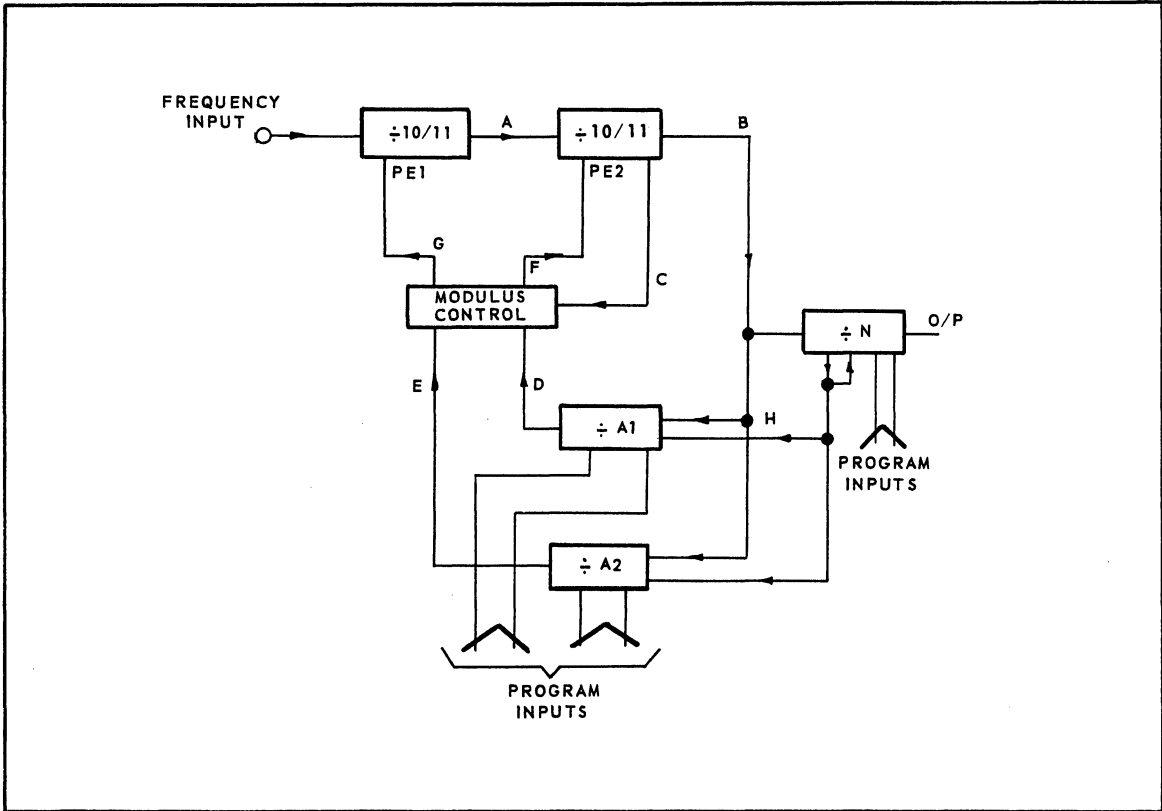
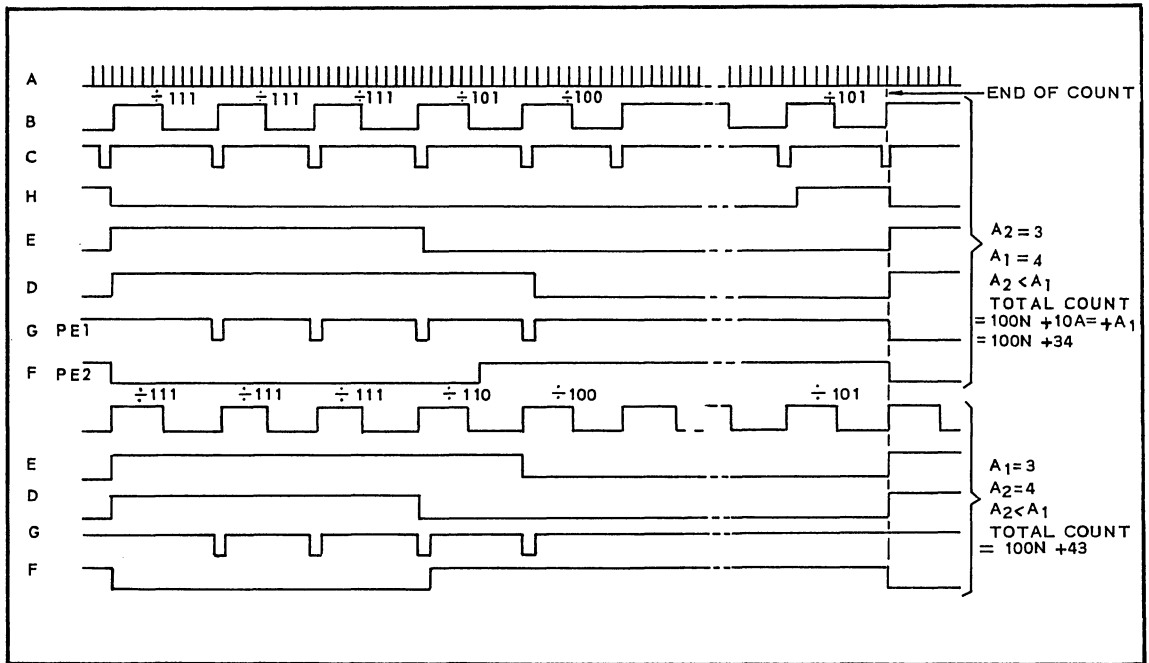

Fig. 8 A programmable divider using a $\div 100/101/110/111$ prescaler.
Fig. 9 Waveforms for four-modulus prescaler.
This minimum count of 100 would not normally cause any problems in a system. However in a practical system, i.e. a VHF synthesiser covering the band 85MHz to 130MHz in 10kHz steps, a two modulus prescaler with moduli of 100 and 101 would be required to reduce the VCO output to a level at which CMOS decodes can be used. This gives a minimum count 10000 and consequently the minimum frequency that could be programmed would be 100MHz. Clearly a large part of the required frequency spectrum is not covered. To overcome this restriction it is possible using a basic 10/11 prescaler, to construct a prescaler with three or four moduli and this will be described in more detail below. In this particular VHF synthesiser we would use a four modulus prescaler with moduli of 100/010/110/111, and these would be controlled by two 'A' counters in parallel as shown in Fig. 8, with operational waveforms illustrated in Fig. 9. Counter 'A2' controls the addition of 10 to the basic modulus of 100 and consequently 'A2' should be programmable from 0-9. Counter 'A1' controls the addition of 1 to the basic modulus (100) and should also be programmable from 0-9. For programming, 'A1' and 'A2' may be visualised as setting the least significant digits respectively. By putting 'A1' and 'A2' in parallel we have reduced the minimum count of 'N' to the greater of 'A1' and 'A2', 10 in this case, consequently the overall minimum count is 1000 ($= N_{\min} \times P$) and the minimum programmable frequency is now 10MHz. Various changes can be rung with this technique. For example, if a three modulus prescaler, 100/101/110, is used for this VHF synthesiser, two 'A' counters are still required but they now operate in series, 'A1' which controls the addition of 1 to the modulus, is now required to be programmable from 10-19, while A2, which controls the addition of 10 to the modulus is still only required to be programmed from 0-9. However the minimum count of 'N' is now 20 and consequently the overall minimum count of the counter is 2000, giving a minimum output frequency of 20MHz. In this case, then, we have traded minimum count for prescaler complexity. An example of this type is given below.
It can be seen from Fig. 9 that the input of the prescaler is buffered. If we examine the input circuitry of the prescaler we can see that it presents a non–linear impedance. Since this is driven by a Voltage Controlled Oscillator which is also intended to provide a spectrally pure signal for use elsewhere, (i.e. in a communications receiver) it is important to isolate the VCO from the divider input impedance so that the VCO output is not degraded. The buffer is intended to provide this function. A target for the amount of isolation between the divider input port and the VCO output port is typically 60dB although many systems will tolerate lower values. There are many commercially available microwave integrated circuits (MICs) available (i.e. Avantek GPD401) which give upwards of 20dB isolation and similar amounts of ‘tame’ gain, if one of these is coupled with an attenuator, adequate amounts of isolation can be provided economically.